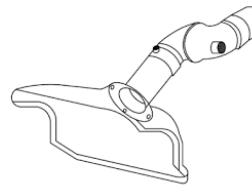

Figure 1: Rectangular hood
- 7.1.2 Often, the snorkels aren't located correctly near the source of the gas release point and capture velocity is not enough to remove the entire waste gas. They may be connected to the exhaust drop in the lab. However, it is often difficult to get snorkels close enough to adequately remove all waste anesthetic gas (WAG), resulting in some exposure, depending on how close the snorkel is to the gas release zone. It is recommended to locate the snorkels 4-6 inches from the gas release zone. If a snorkel with a rectangular hood is chosen, the capture velocity will be improved (see Figure 1 below from <https://lcicorp.com/benchttop.html>):